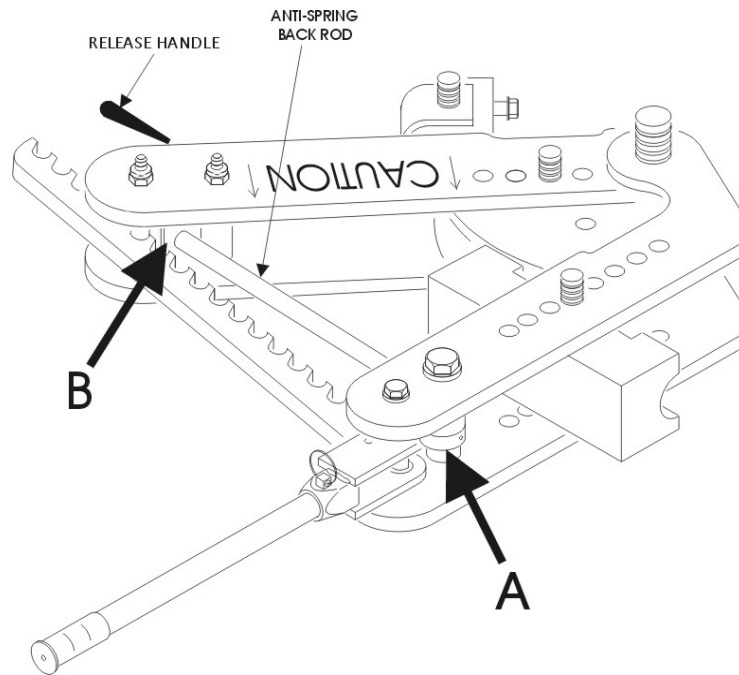

Figure 1. Overall
1. Figure 1 is an overall view of the Anti-spring back rod kit install.